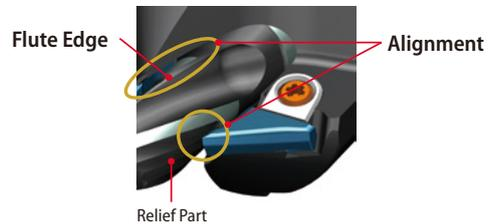

Fig.4 DRA Alignment
**4** Align the flute edge and black relief part of the drill to the position shown in Fig.4 by rotating the DRA drill (Fig.4)